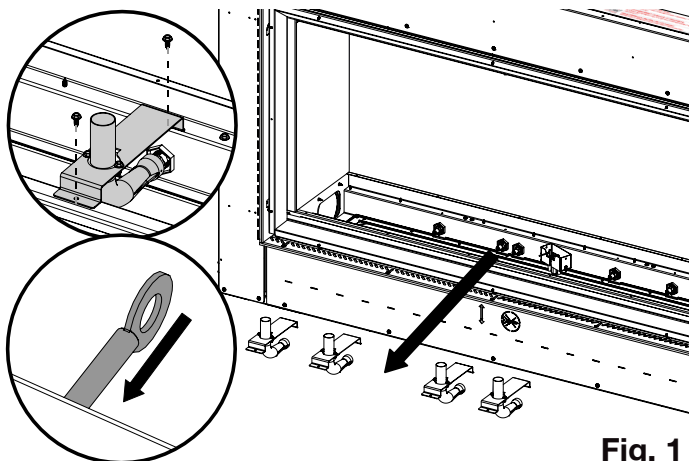

Fig. 1
4. Remove the venturis by removing 2 screws that secure each bracket (Fig. 1).